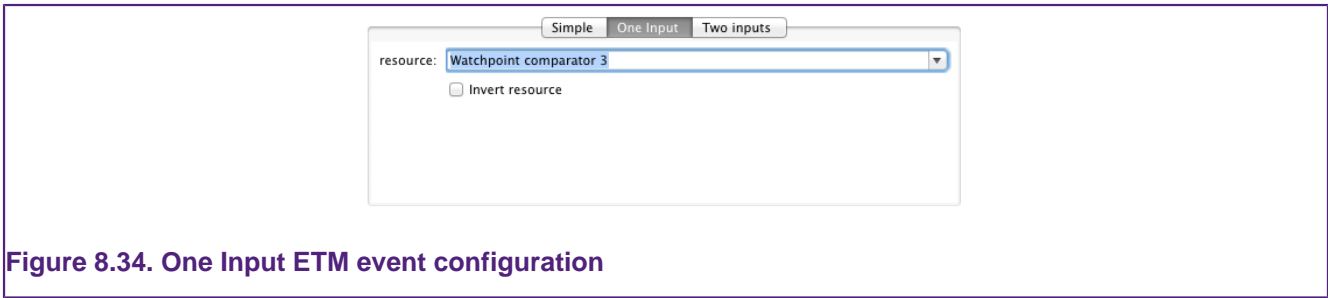

Figure 8.34. One Input ETM event configuration
- To use a single event resource select the **One Input** tab. An event resource can be chosen from the drop-down and the event will be true when the event resource is true. Checking the **Invert resource** box will cause the Event to be true when the event resource is false, and visa-versa. See Figure 8.34.